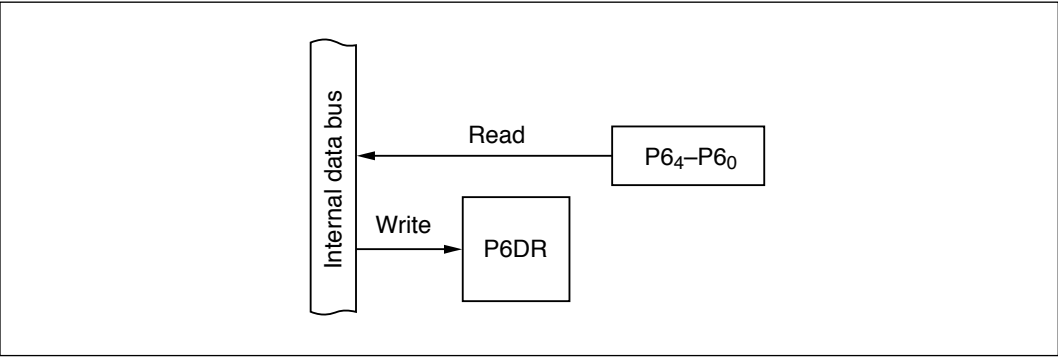

Figure 9-36 Input Port (Modes 1 to 7)
(1) Input Port (Modes 1 to 7): Figure 9-36 shows a block diagram illustrating the general-purpose input function. Table 9-27 indicates register read/write data. Values written in the port 6 data register (P6DR) have no effect on general-purpose input lines. When read, P6DR returns the value at the pin.